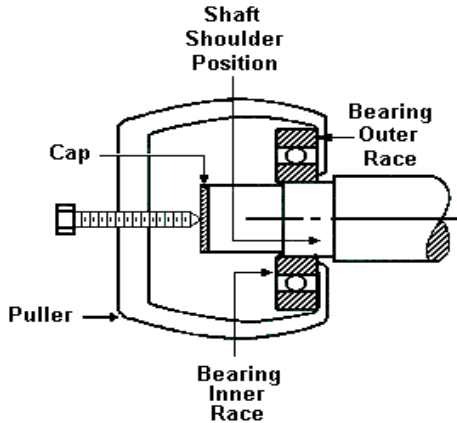

Figure 6. Removing Bearing with a Puller
4. Remove the bearing with a puller. See Figure 6.